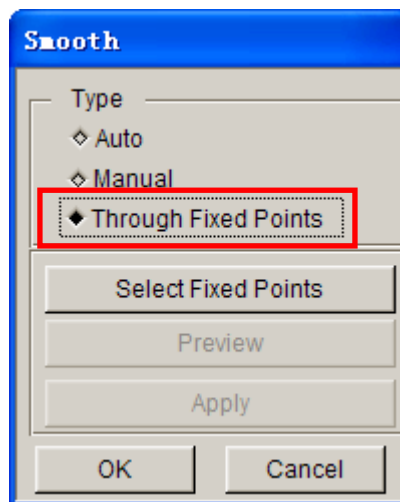

Figure 41 Smooth dialog box
3. Click **Apply** button to display the **Smooth** dialog box illustrated in Figure 41.